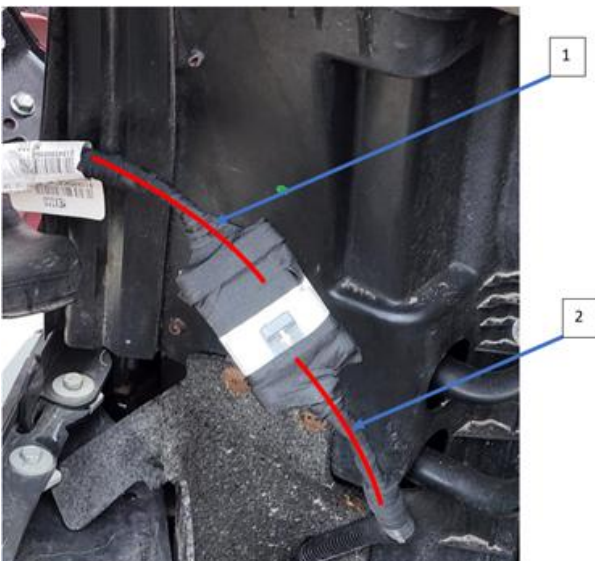

Figure 2. Wiring Harness Taped
9. Add electric harness tape to the 5-pin connector and headlight assembly harness (Figure 2, Item 1).
10. Add electric harness tape to the 5-pin connector and chassis forward harness (Figure 2, Item 2).